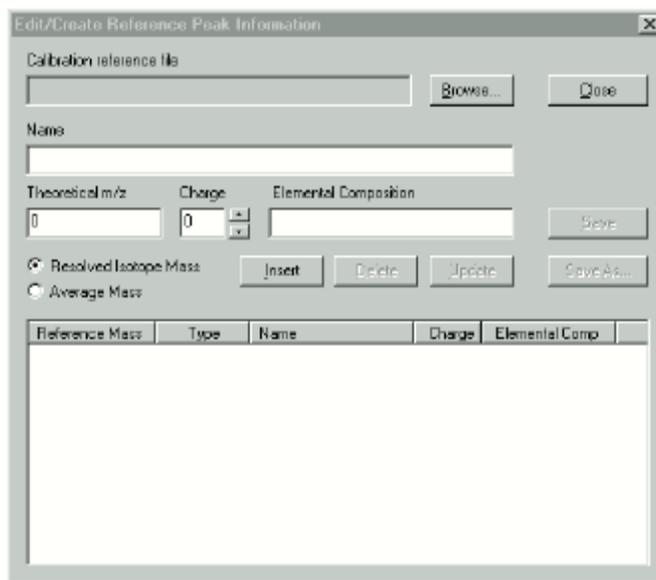

Figure 4: Edit/Create Reference Peak Information dialog box
- 4.9.1 Go to **Process** → **Mass Calibration** → **Edit/Create Reference File**. The *Edit/Create Reference Peak Information* dialog box (Figure 4) is displayed.